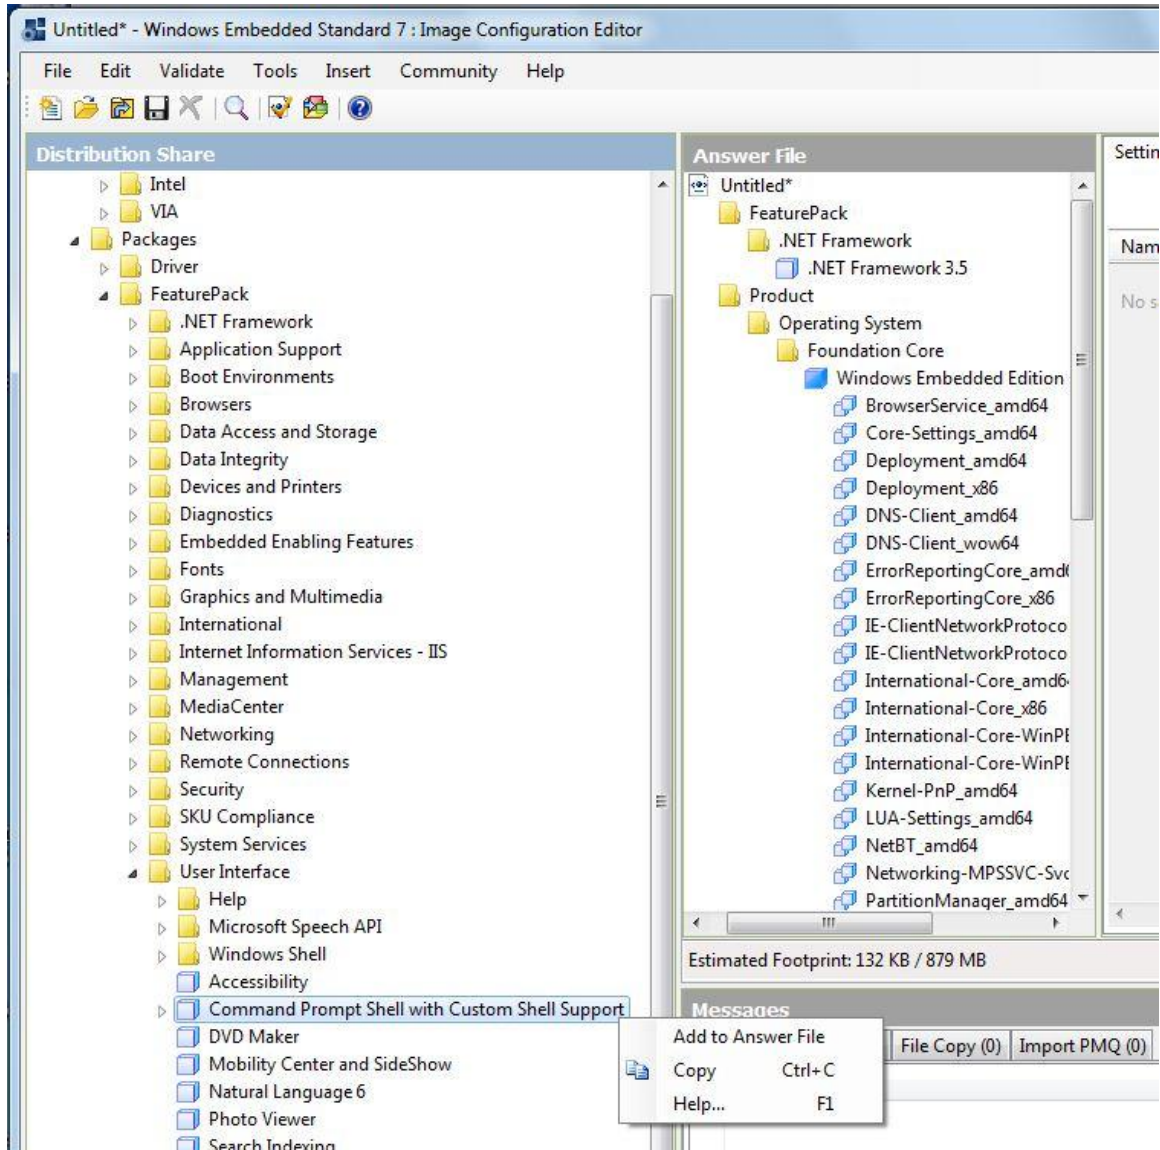

Figure 5-7 - Add Command Prompt Shell to Answer File
6. To use a custom shell, the “Command Prompt Shell with Custom Shell Support” package must be added. In the Distribution Share under Packages->FeaturePack. Expand “User Interface. Under “User Interface” right-click on “Command Prompt Shell with Custom Shell Support” and select “Add to Answer File”, Figure 5-7. This will add the Command Prompt Shell with Custom Shell Support to the answer file